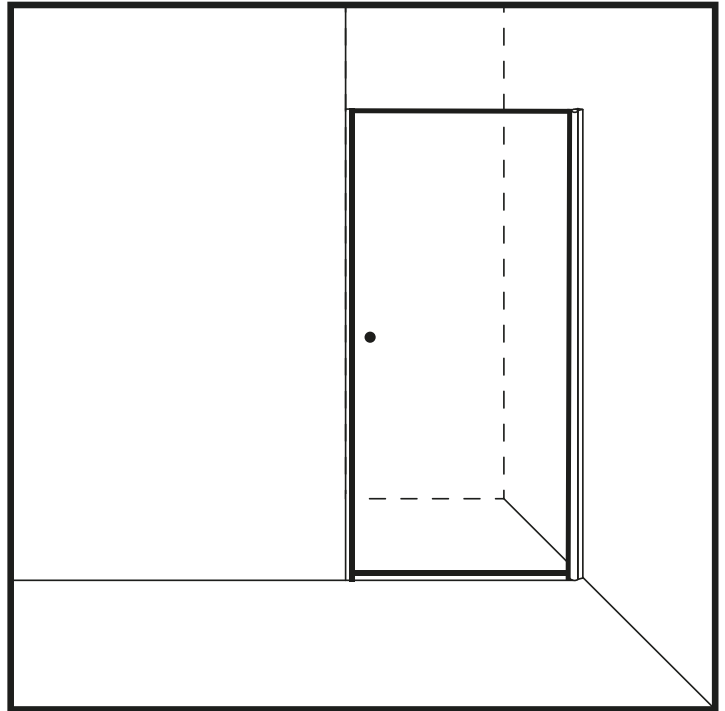

Figure 10
18. Remove the blocks from under the glass. (Figure 10)